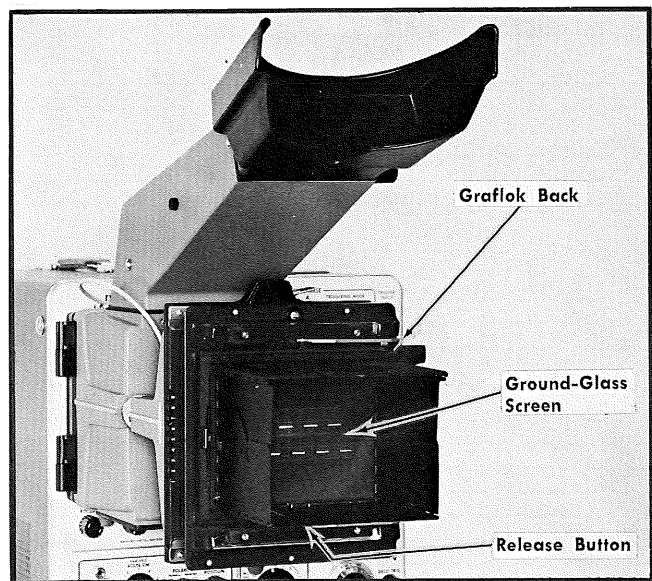

Fig. 2-6. The Graflok Back installed to permit focusing.
Install the Graflok back and press the release button on the back (see Fig. 2-6). Set the Lens for maximum aperture (f/1.4, f/1.9, etc., depending on the Lens) and set the SHUTTER SPEED selector on Time (T). Obtain a sharply focused trace on the CRT using the oscilloscope Focus and Astigmatism controls. Secure the camera in place on the oscilloscope. Open the camera shutter and observe the image on the ground glass screen of the Graflok back.